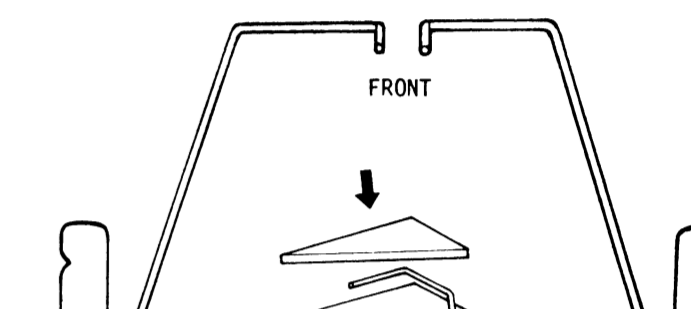

Fig. 18
STEP 16. Glue landing gear wire between W 13 and W 14 (Fig. 17). Bend wire as indicated. Hold wheel with sequin and a drop of glue. Glue on wing fillet bottoms. Glue W 15 into position (Fig. 18).